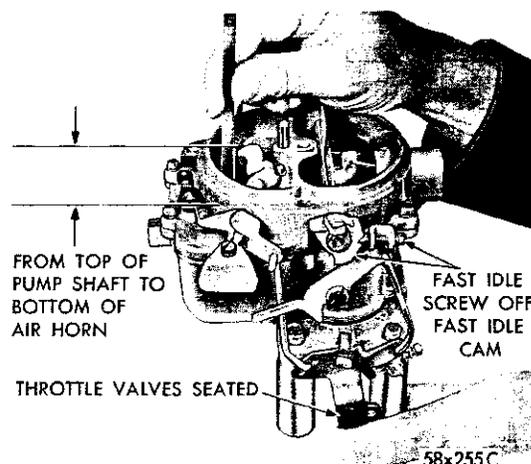

Fig. 31—Measuring the Accelerator Pump Travel
(1) Back off the idle speed adjusting screw. Open the choke valve so that the throttle valves can be completely seated in the bores. Be sure that the pump connector rod is installed in the center hole of the throttle lever.
(2) Close the throttle valves tightly. Measure the distance between the top of the air horn and the end of plunger shaft, as shown in Figure 31. This measurement should be $1'' +$ or $- \frac{1}{64}$ inch.